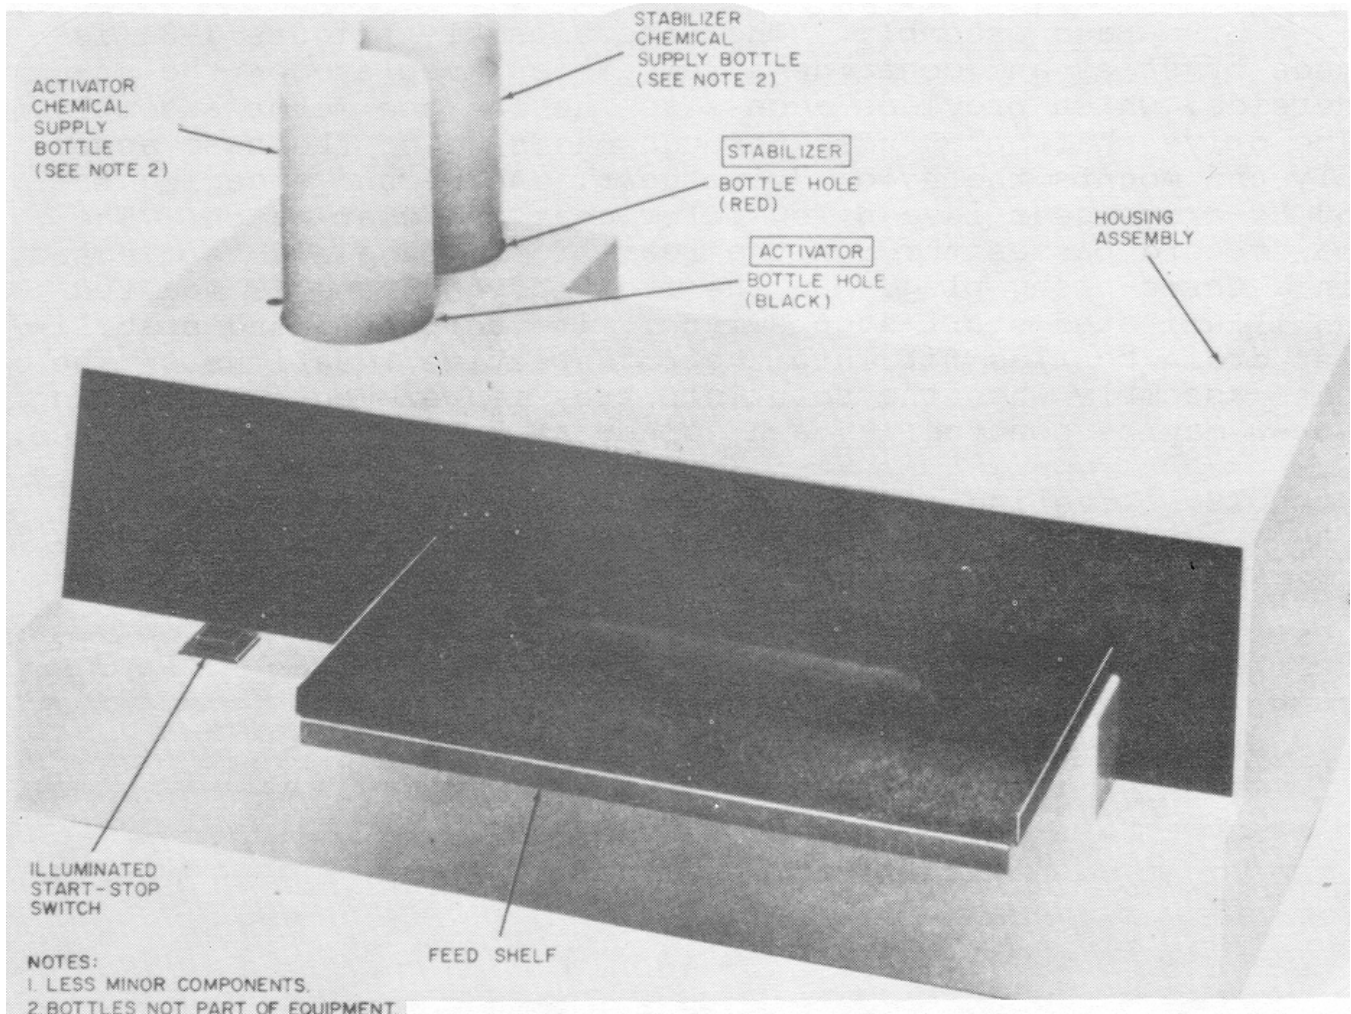
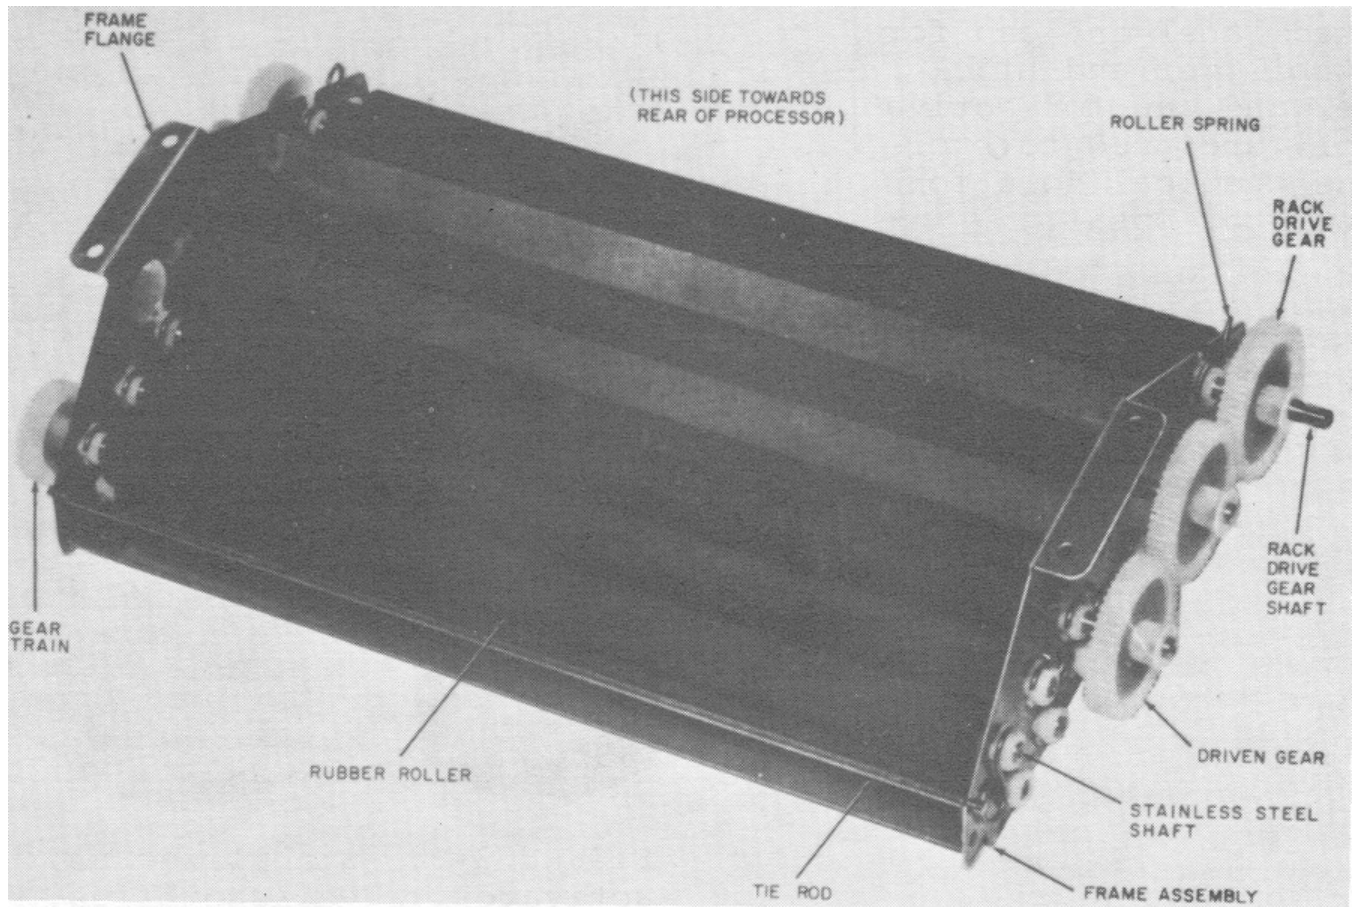

FIGURE 3-1. Processing machine, photographic paper EH-91A.
FIGURE 3-4. Processing rack assembly.
This section describes Processing Machine, Photographic Paper EH-91A [print processor (figure 3-1)], (this term will be used throughout this section), and covers its assembly, installation, operation, and operator's maintenance. It includes operation under usual conditions, cleaning and inspection of the equipment, and replacement of parts available for the operator.
d. Processing rack assembly. The processing rack assembly (figure 3-4) consists of 10 rubber rollers mounted on steel shafts driven by nylon gears with a 1:1 ratio, and two frame flanges. The tension of the rollers is preset by roller springs. The processing rack assembly mounts into the solution tray with the rack drive gear meshing with the idler
e. Housing assembly. The plastic housing assembly (figure 3-1) fits over the print processor, serving as a protective cover for the other components and provides bottle holes for the activator and stabilizer bottles.
f. Feed shelf. The feed shelf (figure 3-1) is a flat stainless steel tray which attaches to the processing rack assembly, and provides a guide for the exposed stabilization print into the print processor.
(1) Check to see that the processing rack assembly (figure 3-4) is clean (para 3-15).
(1) Assemble the housing assembly (figure 3-1) onto the print processor as follows:
(1) Assemble the feed shelf (figure 3-1) to the print processor by tilting the front upward.
(2) Insert the shelf into the housing assembly as far as it will go, then lower the front of the shelf until it is securely in place.
(3) This motion hooks the rear of the feed shelf to the tie rod (figure 3-4).
a. Before applying power to the print processor, remove the feed shelf (figure 3-1) and remove the housing assembly [para 3-12d(6)].